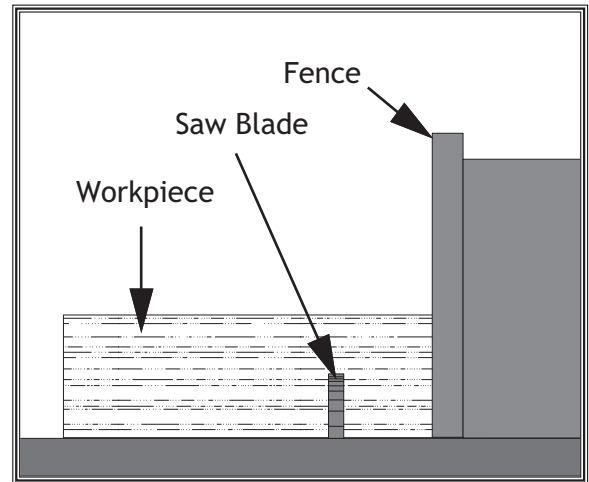

Figure 53. First cut to create a rabbet with a standard blade.
5. Adjust the fence so the blade is aligned with the inside of your rabbet channel as shown in Figure 53.